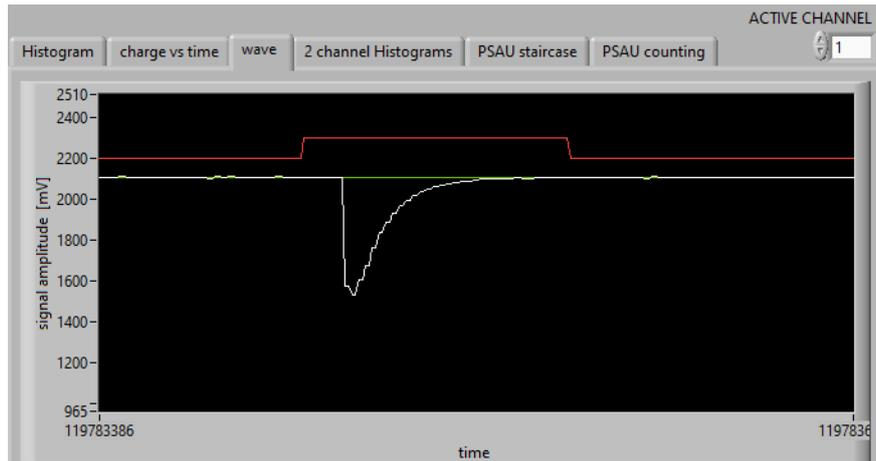

Figure 24: Digitized Wave output corresponding to appropriate settings.
- Adjust the **pre-gate** and **gate** values So that they encapsulate the entire triggered wave. An example of what a proper wave form and integration gate should look like is show above in Fig. 24. The system will be ready to record and integrate the spectrum and can be viewed in the Histogram tab of the GUI.